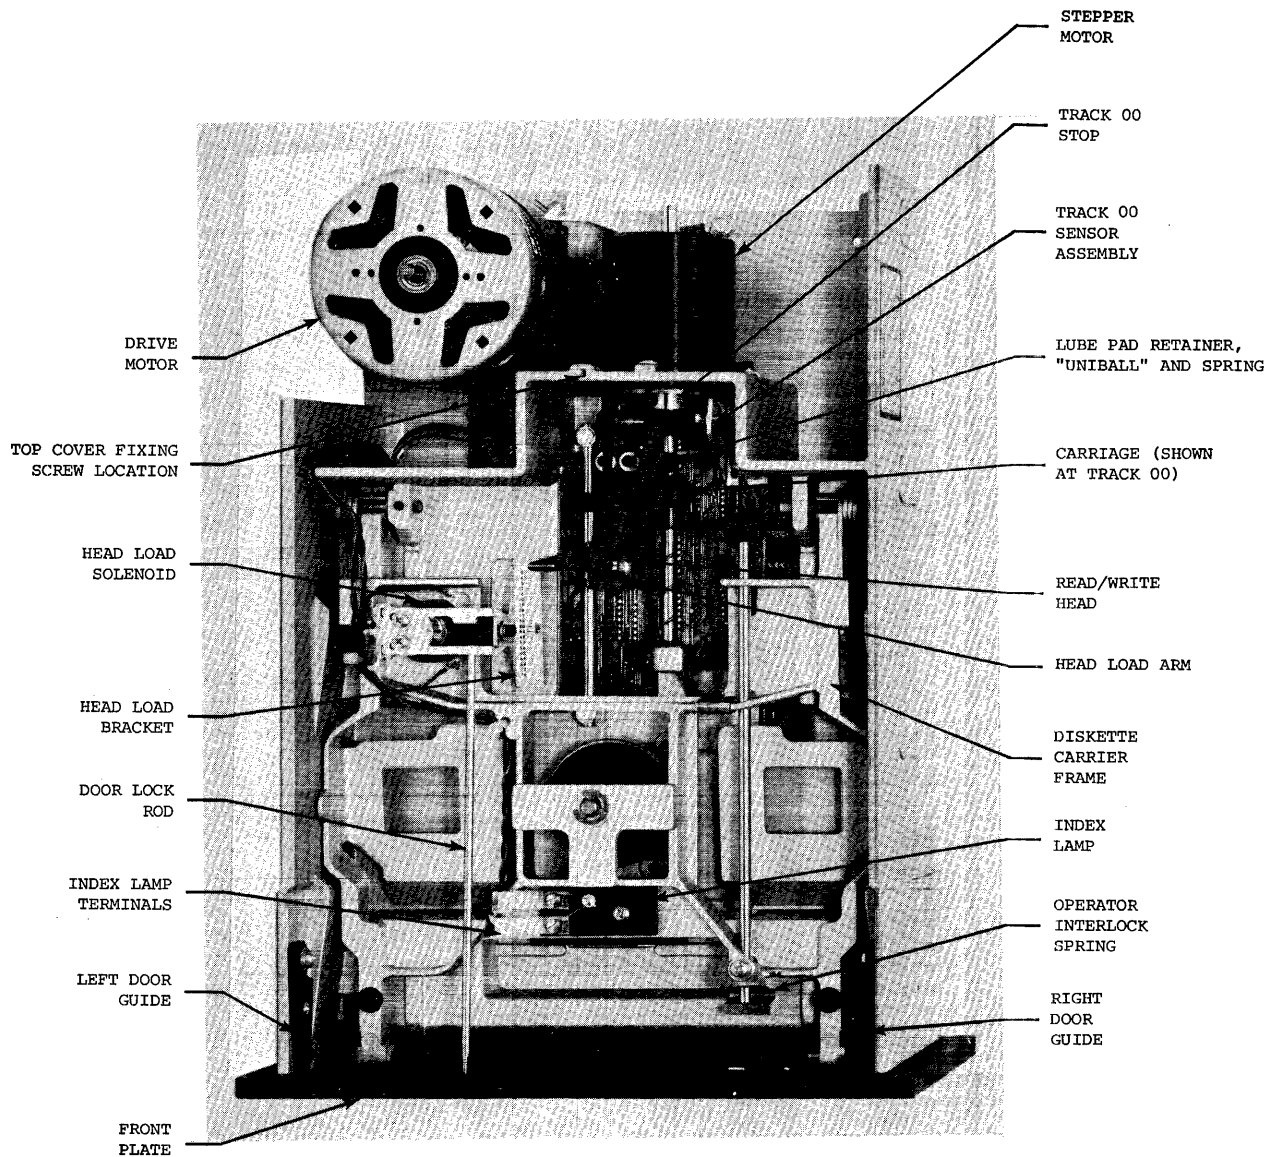

Figure 6-1. Model 76 Diskette Drive with Top Cover Removed
The parts referenced in the various procedures are illustrated in Figures 6-1, 6-2, 6-3, and 6-4.
6.3.1 INSPECT AND CLEAN READ/WRITE/ERASE HEAD (Figure 6-1)
6.4.1 MOTOR DRIVE (Figures 6-1, 6-2, and 6-3)
6.4.2 TOP COVER REMOVAL (Figure 6-1)
6.4.3 DISKETTE CARRIER ACCESS (Figures 6-1 and 6-4)
(Figure 6-1)
6.4.6 HEAD LOAD ACTUATOR (Figures 6-1 and 6-4)